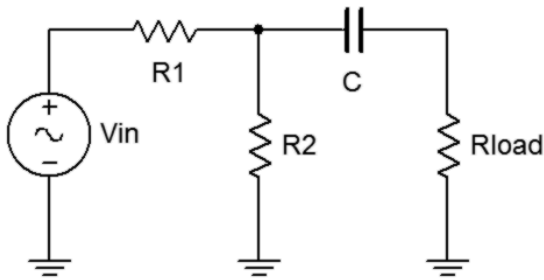

Figure 11.1
- For the circuit of figure 11.1, calculate the voltage across the 1 k $\Omega$  load using  $R_1=1.5$  k $\Omega$ ,  $R_2=2.2$  k $\Omega$ , and  $C=.47$   $\mu$ F, with a 2 V p-p 1 kHz source. Record this value in Table 11.1. Also calculate the expected Thevenin voltage and Thevenin impedance. Record these values in Table 11.2.
- Build the circuit of figure 11.1 using  $R_1=1.5$  k $\Omega$ ,  $R_2=2.2$  k $\Omega$ ,  $R_{load}=1$  k $\Omega$  and  $C=.47$   $\mu$ F. Set the generator to a 1 kHz sine wave at 2 V p-p. Make sure that the *Bandwidth Limit* of the oscilloscope is engaged. This will reduce the signal noise and make for more accurate readings. Measure the load voltage and record in Table 11.1 as  $V_{load}$  Original.